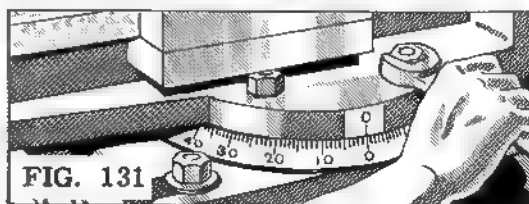

FIG. 131
6. Rotate the vise until the zero mark on the vise coincides with the desired graduation on the base (Fig. 131).
7. Tighten the four nuts on the vise. These will secure the vise in position on the base (Fig. 131).